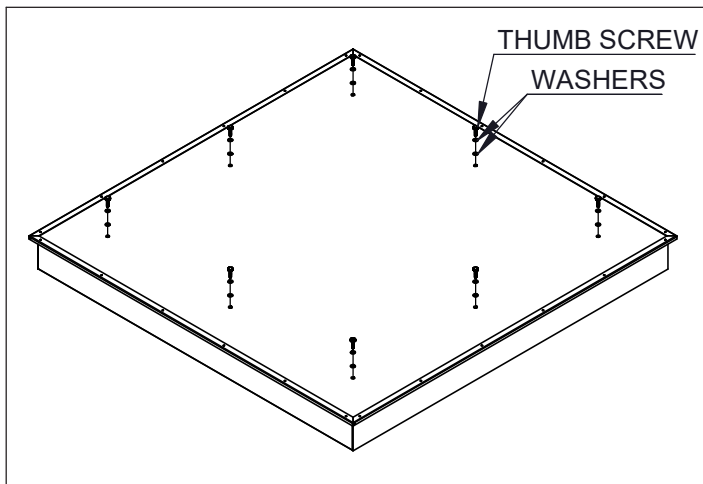

Figure 1
1. Remove Thumb Screws and Washers from Housing (Fig. 1)